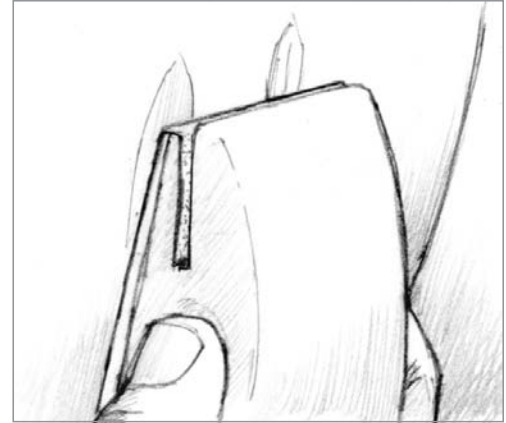

Figure 4-4 Wash with water and sand with 100-grit sandpaper or wet sand with 80–120-grit .
4. Wet sand with 80–120-grit wet/dry sandpaper or wash with water (no soap, no ammonia) and sand dull with 100-grit sandpaper (*Figure 4-4*). If 105/205 epoxy has been used in warm conditions, sanding and bottom painting can be done later the same day. With slower hardener or in cooler temperatures, allow the epoxy to cure overnight. Apply your bottom paint of choice. Improve the boat's ventilation! See Section 5.4.